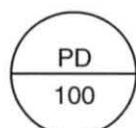

Figure 51. Instrument Tag
8. Determine the measured variable indicated in the instrument tag in figure 51.